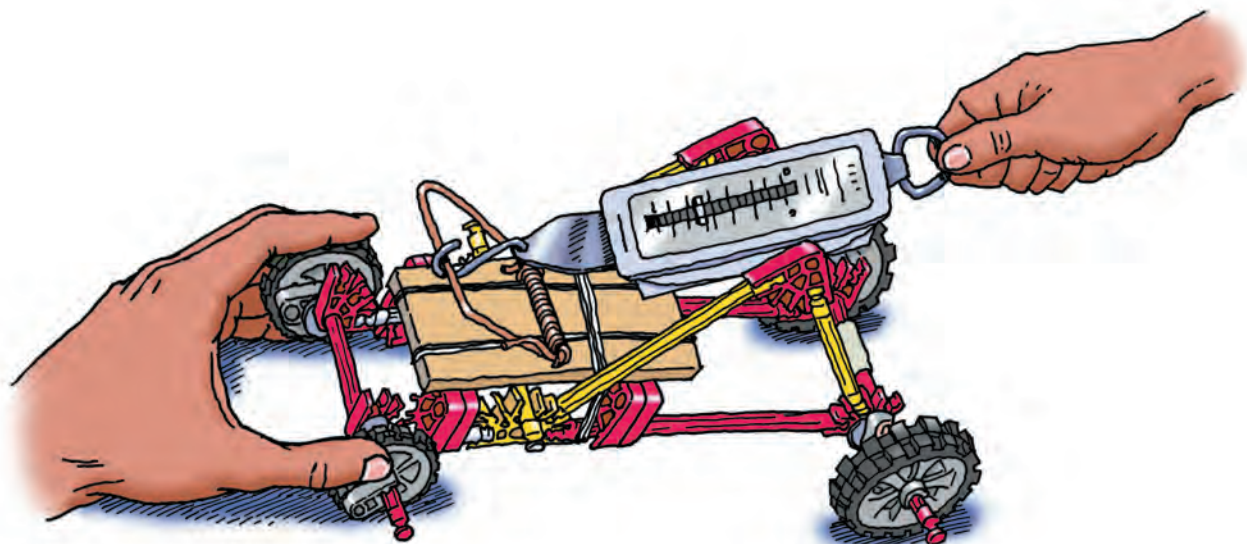

Figure 19.3 Attach and pull the spring scale as shown here to measure the force of the mousetrap spring.
2. Set the car on the table or floor and attach a spring scale to the mousetrap bar. Holding the car firmly, slowly pull the bar back with the spring scale. Observe the force on the spring scale as you pull the bar. Record what happens to the force as you keep pulling the bar. Slowly release the bar so that it returns to its resting position; then remove the spring scale hook from the bar (see Figure 19.3).